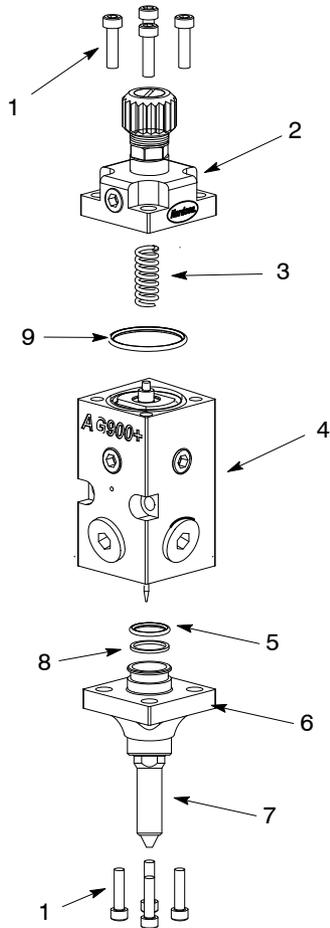

Figure 23: AG-900+/AG900+S Applicator Assembly
6. See Figure 23. Install new large o-ring (9) on top of piston cartridge.
7. Re-install spring(3) and cap (2). Insert two of the four socket head screws (1) in opposite corners of the cap. Depress the cap and hand-tighten the two screws. Insert the remaining screws into the cap and tighten all four screws to 7-8 ft.lbs.
8. Install new o-ring (5) and back-up ring (8) onto nozzle flange (6).
9. Re-install nozzle flange (6) onto applicator module body (4). Insert two of the four socket head screws in opposite corners of the flange. Hold the flange in place and hand-tighten the two screws. Insert the remaining screws into the flange and tighten all four screws to 7-8 ft.lbs.